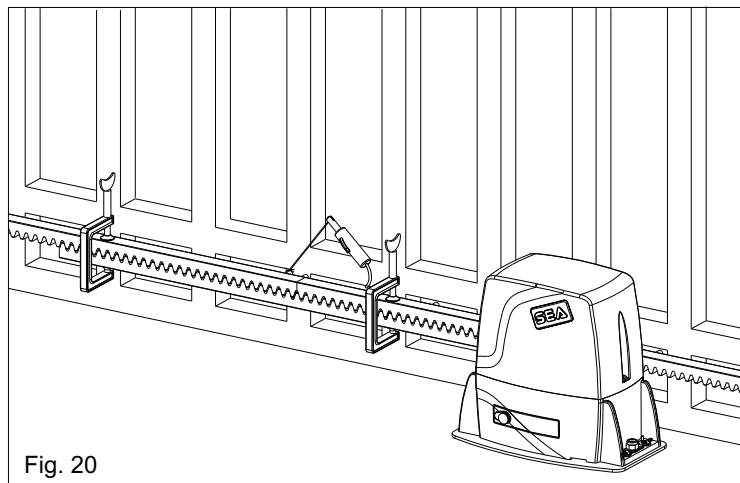

Fig. 20
7.4. Make sure that all the gear rack elements are perfectly aligned and placed correctly (teeth in phase). It's suggested to place two aligned elements in front of a third one as shown in Fig.20;